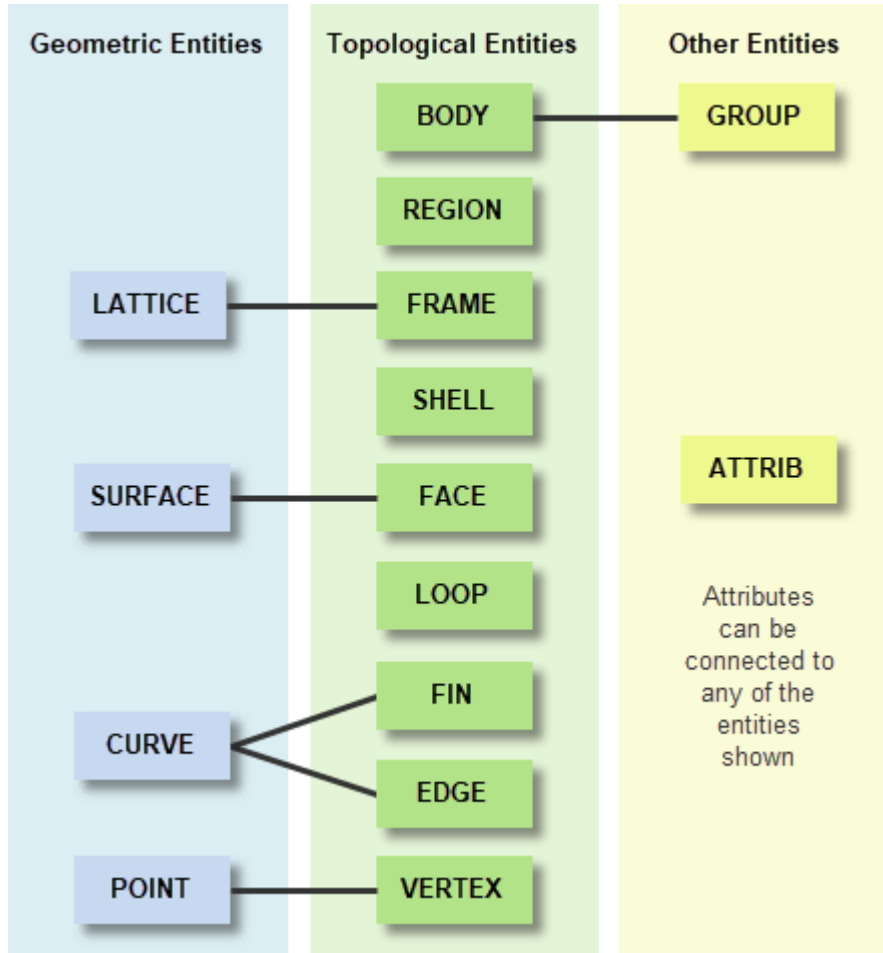

Figure 3–1 Relationships between Parasolid entities
- The major entities shown in *Figure 3–1* are described in Section 3.2, “Topological entities”, Section 3.3, “Geometric entities” and Section 3.4, “Other entities”, respectively.